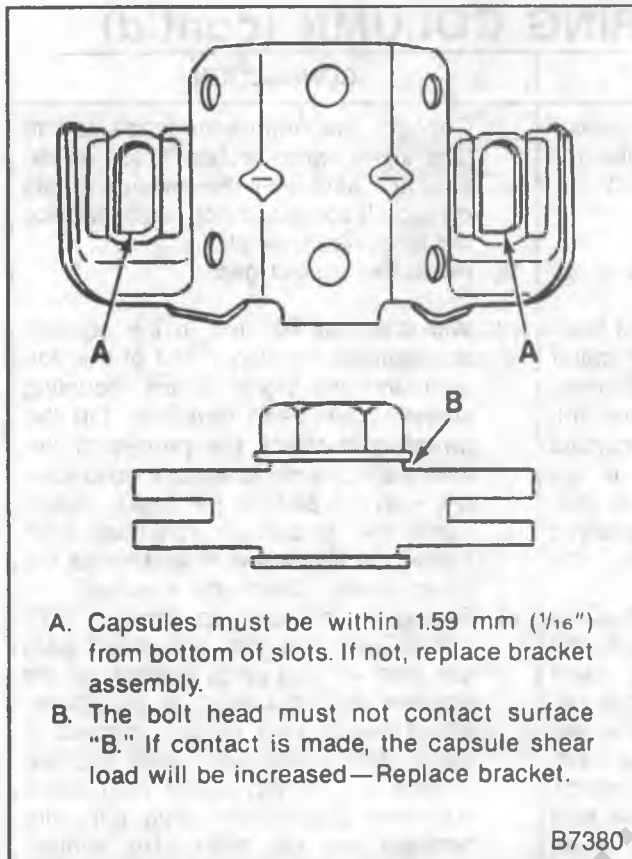

Figure 1—Steering Column Bracket Inspection
Inspect (Figures 1 through 3)
1. Capsules on the steering column bracket assembly. The capsules must be within 1.59 mm (1/16-inch) from the bottom of the slots (figure 1). If not, the bracket should be replaced.
2. Contact surface (figure 1). The bolt head must not contact surface "B" or the shear load will be increased. If contact is made, replace the bracket.